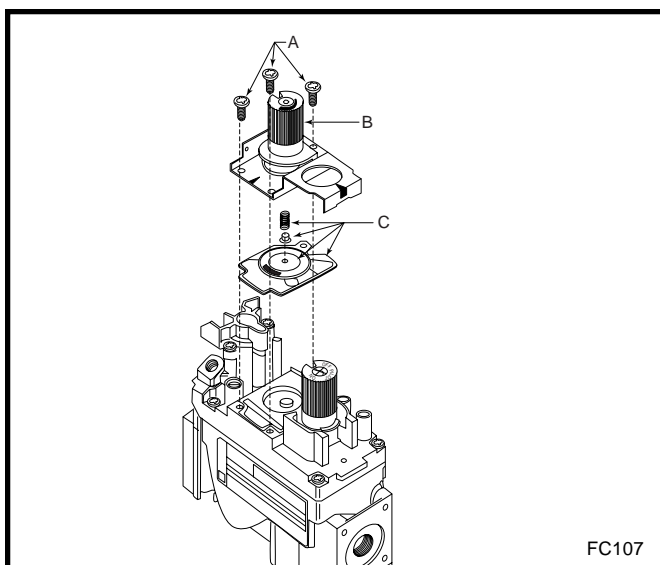

Fig. 57 Remove mounting screws, pressure regulator tower and spring and diaphragm assembly.
1. Using the TORX T20 bit, remove and discard the three (3) pressure regulator mounting screws (A), pressure regulator tower (B) and the spring and diaphragm assembly (C). (Fig. 57)